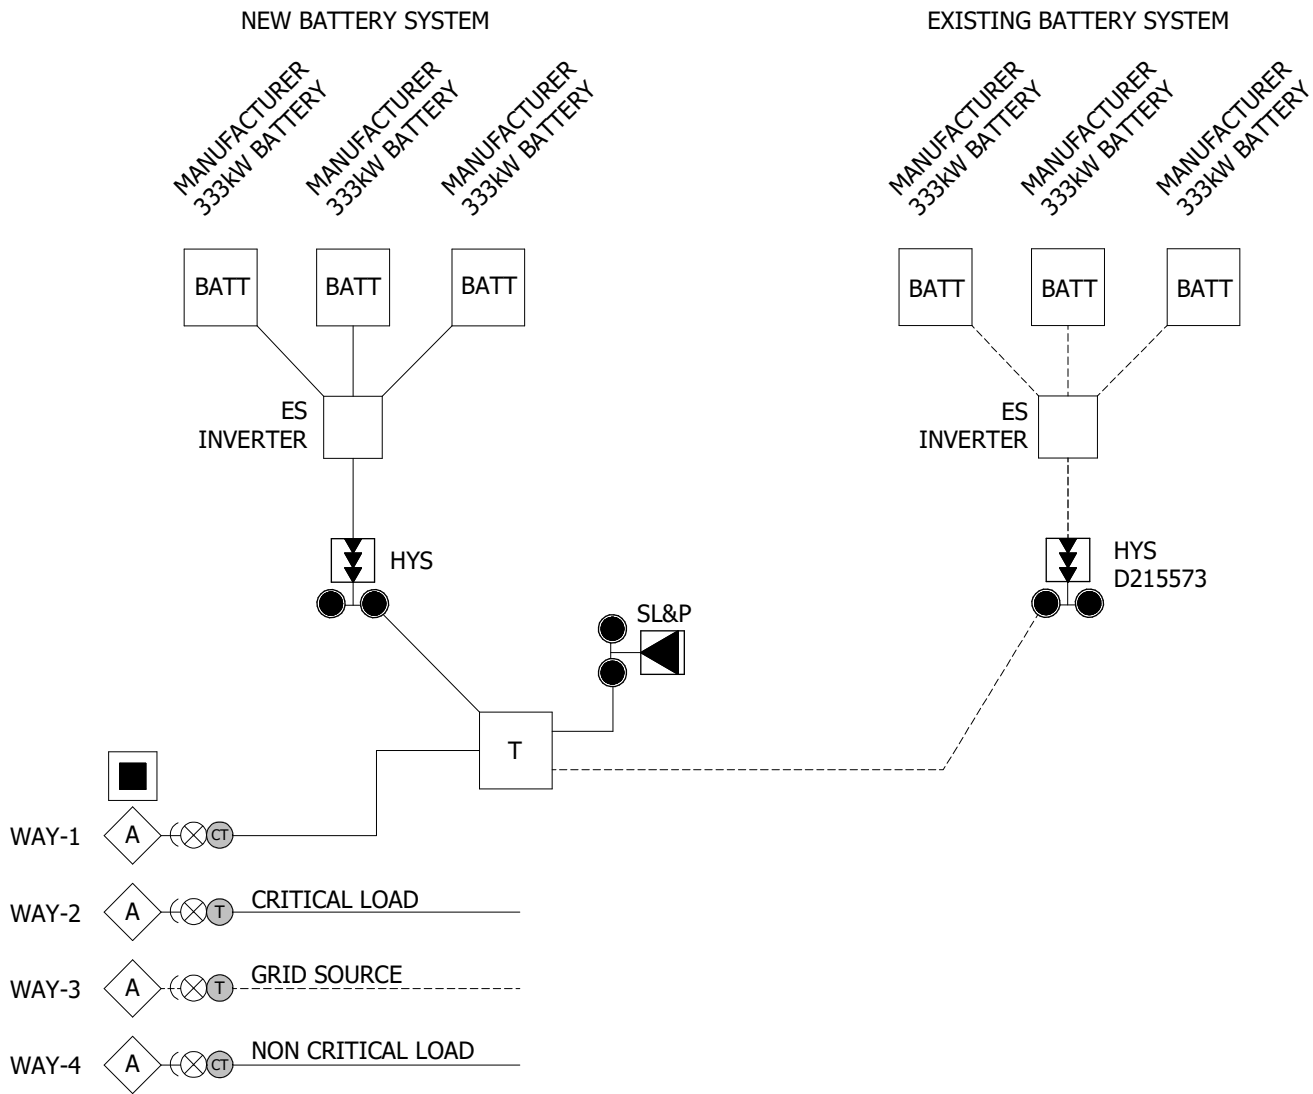

FIGURE 1
- C GENERAL AND MULTI-BATTERY (REQUIRES HSCC SCADA TRAYER - S704738), SEE FIGURE 1: